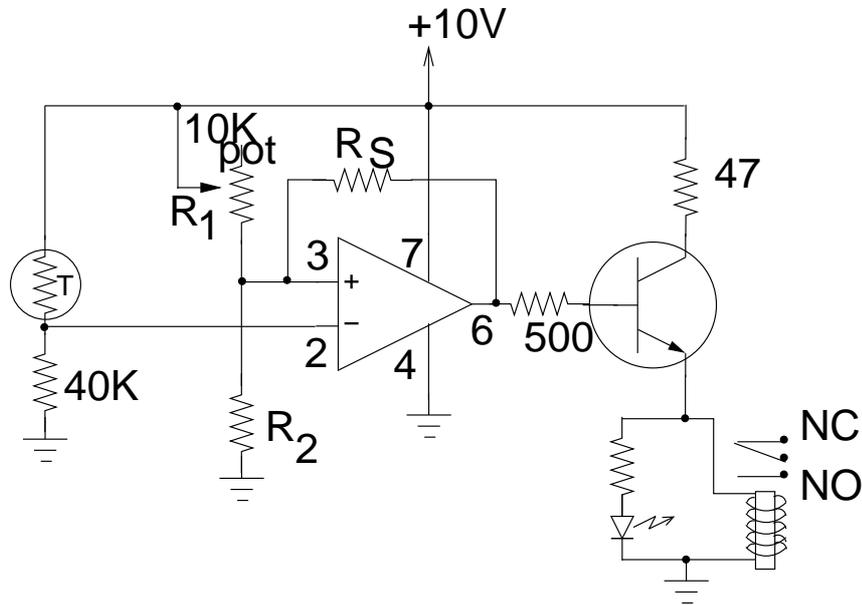

Figure 3: Thermistor sensing circuit with relay and output driver stage added
Figure 3 shows the final circuit. Notice that the setpoint circuit has been changed. There is now a fixed resistor R_2 to ground. The 10K pot is now being used as a single variable resistor. Only two of its three terminals are connected to anything—the “lower” end and the wiper. The upper end is not connected to anything.
Figure 5: Temperature vs. time plot for circuit of Figure 3, including Schmitt Trigger. Note the “dead zone between upper and lower set points, which reduces heater cycling.
In Figure 3 let's choose $R_2 = 40K$, the same as the resistor forming a divider with the thermistor. Since the thermistor resistance ranges from about $0.5K\Omega$ to $2.5K\Omega$ depending on temperature, the variable resistor formed out of the $10K$ pot will cover that same resistance range depending on the desired temperature. So we have $R_1 \ll R_2$. Now consider the case $R_S \gg R_2$. According to the above discussion of parallel resistors and voltage dividers, the biggest change in the divider ratio for the setpoint divider will take place when R_S is switched into parallel with R_2 , changing by a fraction $\delta \sim R_2/R_S$. So to pick the value of R_S to use, we should decide how much we want the set point to change when the op-amp switches.
1. Build the circuit of Figure 3. For initial testing without the heater, the relay leads can be left un-connected and the thermistor can be left on the breadboard.